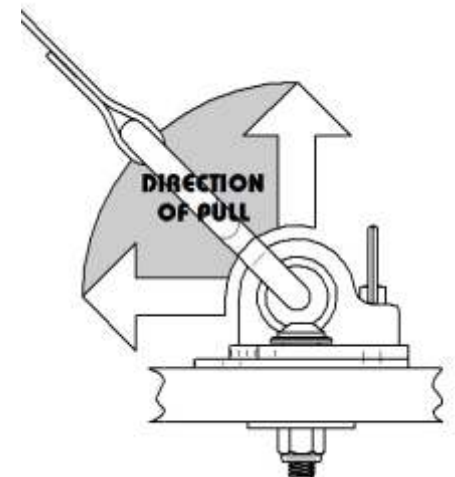

Figure 3.
1. Anchor should be oriented as shown in Figure 3 for maximum load capacity.